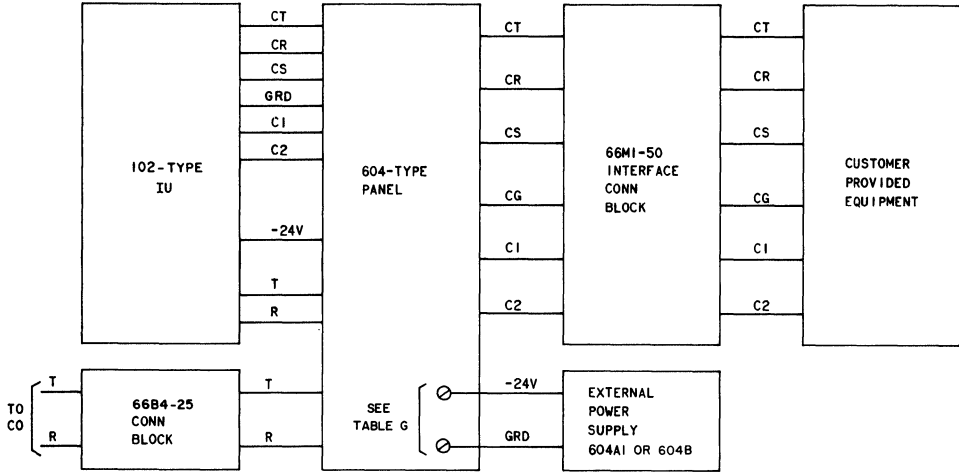

Fig. 7—Block Diagram—102-Type Interconnecting Unit With 604-Type Panel
**3.06** If an external telephone company-provided power supply is used (604A1, 604B or 604C only), or CP dc power supplied through the KS-20944 protector, connect to fuse panel on rear of 604A1, 604B, and 604C as shown in Fig. 7 and Table G (use 16-gauge or equivalent twisted pair). The 604A, 604B, and 604C panels operate on externally supplied -24 volts. The 604B can be adapted to -48 volt operation by putting the option straps in the down position. The 604C can be adapted to -48 volt operation by adding a 21A apparatus unit and putting the option straps in
**3.25** ⚡When voltage protection is required, the KS-20944 protector must be mounted externally and wired to the power supply terminals of the 604-type and 615A panel. (See Fig. 7 and 8.)